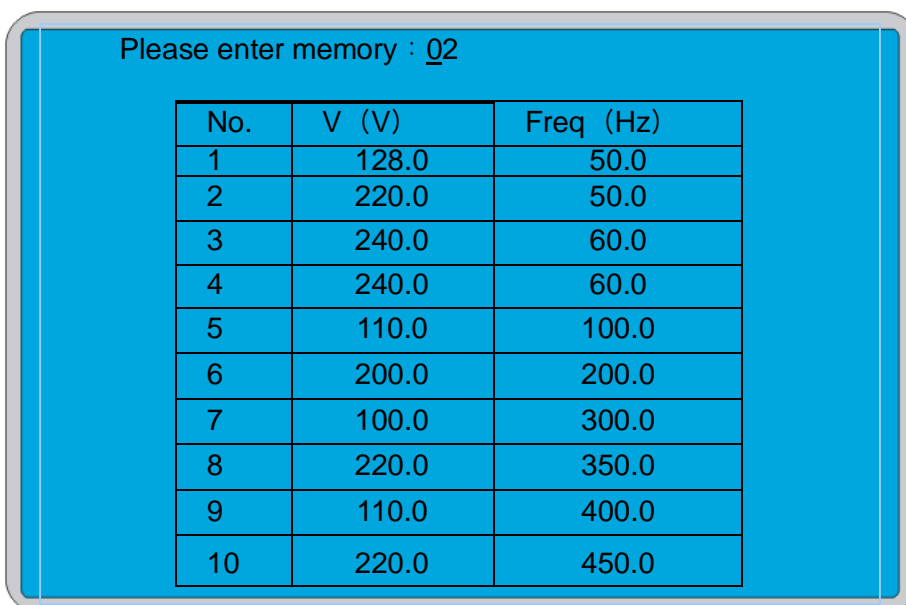

Figure 3-6 Save/Load Parameters via Manual Mode
- After setting parameters, press **[SAVE]** then the display will switch to “Saved/Load Parameters” as shown in Figure 3-6.
Users can also recall saved parameters, as shown in Figure 3-6, by pressing **[LOAD]**. Directions to load parameters are as follows:
- a. In Standby interface, press **[LOAD]** to switch to the list of saved parameters, Figure 3-6